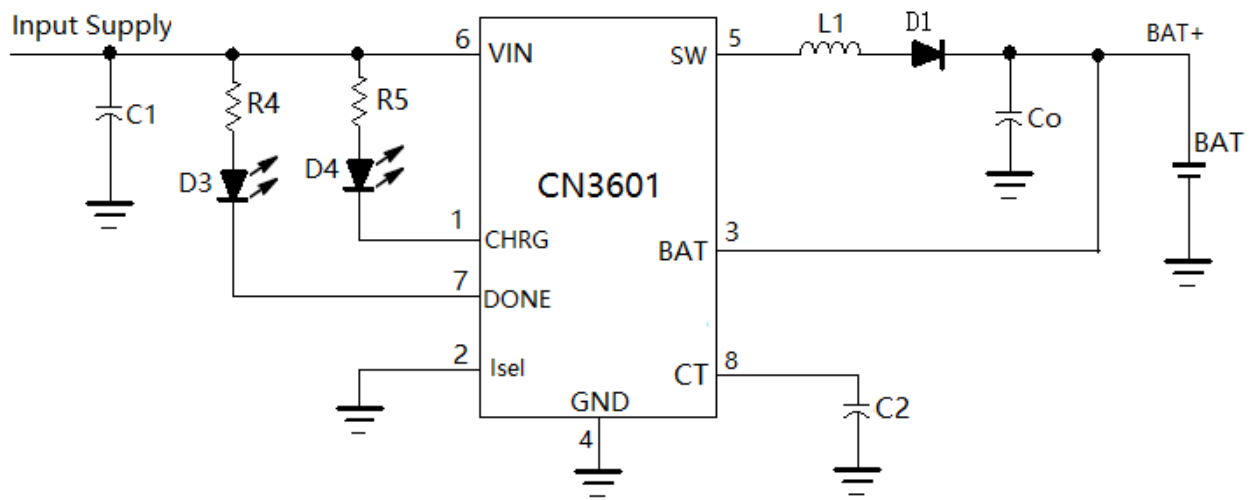

Figure 1 Typical Application Circuit
If the voltage at BAT pin rises above 1.77V(93.3% of BAT highest voltage), the constant current charge mode is stopped, and the CN3601 goes into the maintenance charge mode. The upper threshold of inductor current in maintenance mode is reduced as shown in Table 1. An internal timer is started once the CN3601 is in the maintenance charge mode, this puts a time limit on the maintenance charge mode, the time limit is programmed by a capacitor at the CT pin as shown in Figure 1. After the time out occurs or the battery voltage rises to its highest value, the whole charge cycle is terminated, the CN3601 enters into termination mode.
- C2 is the capacitance of C2 in Figure 1, the unit is Farad, C2 should be greater than 1nF, otherwise the timer's accuracy may be affected. If multi-layer ceramic capacitor is used as the timing capacitor, it is better to use 1uF or 2.2uF capacitor whose package size is 0805 or 1206.